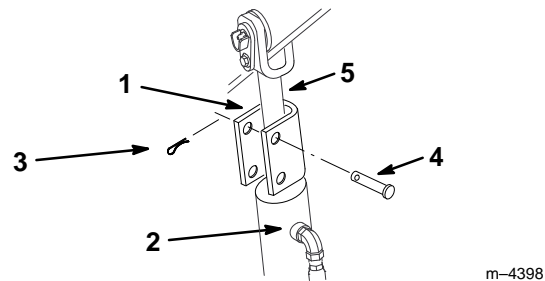

Figure 15
4. Position a loader arm cylinder lock over each lift cylinder rod (Fig. 15).
5. Secure each loader arm cylinder lock with a clevis pin and cotter pin (Fig. 15).